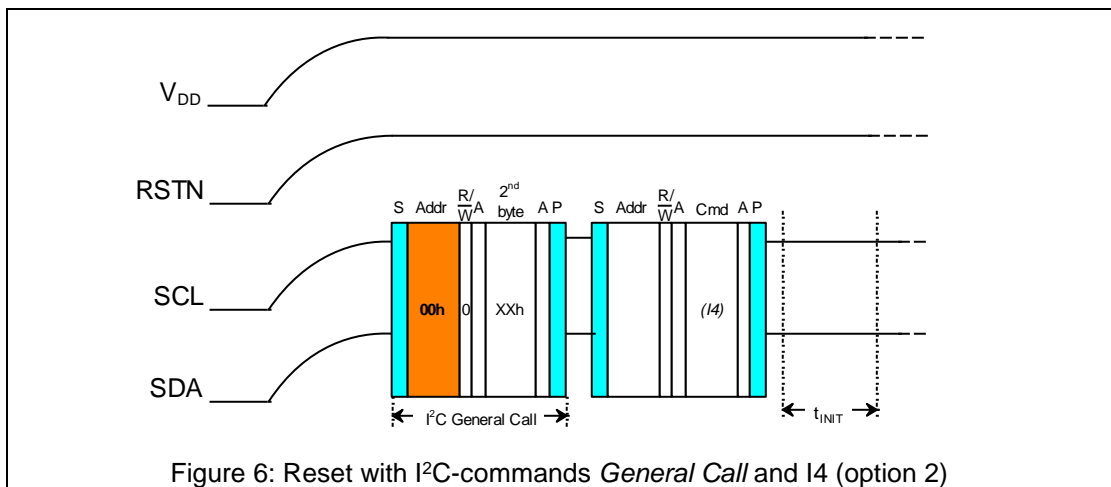

Figure 6: Reset with I2C-commands *General Call* and I4 (option 2)
2. Send a *General Call* I2C command1 (I2C-address 00h) (Figure 6).